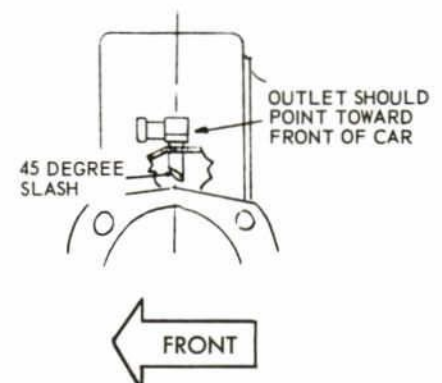

Figure 3—Rear Axle Vent Installation
3. (Figure 3) This vent has a 45 degree difference between the external outlet and the internal slash opening. This vent is properly positioned by pointing the external opening toward the front of the car, as illustrated.